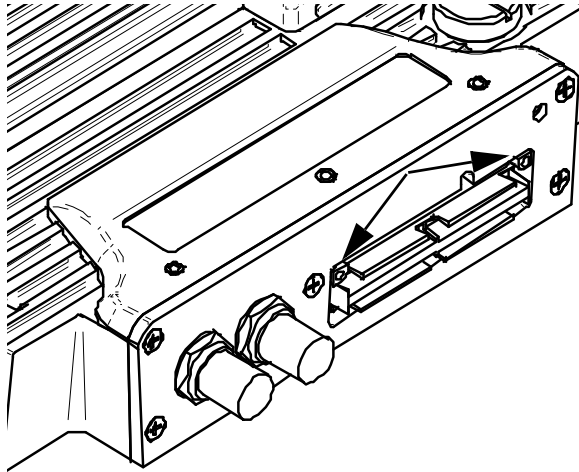

Figure B-2 The phased array module connector guide location
- a) Align the phased array probe connector correctly by matching its guide pins with the PHASED ARRAY module connector (see Figure B-2 on page 134).